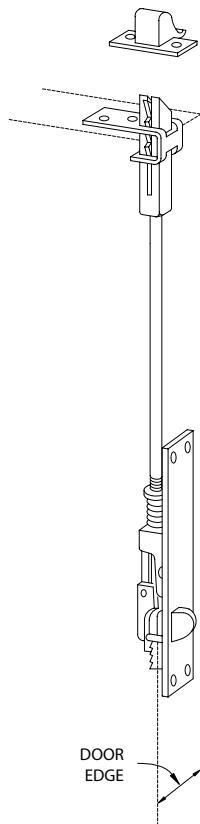

FIGURE 11c
- 1c. Automatic Flush Bolts, Figure 11c, operate when the active leaf is opened or closed.